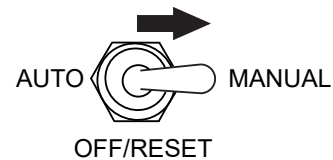

Figure 50. Auto Start/Stop Switch (Manual Position)
2. To start the engine, place the **Auto Start/Stop** switch in the **MANUAL** position (Figure 50).